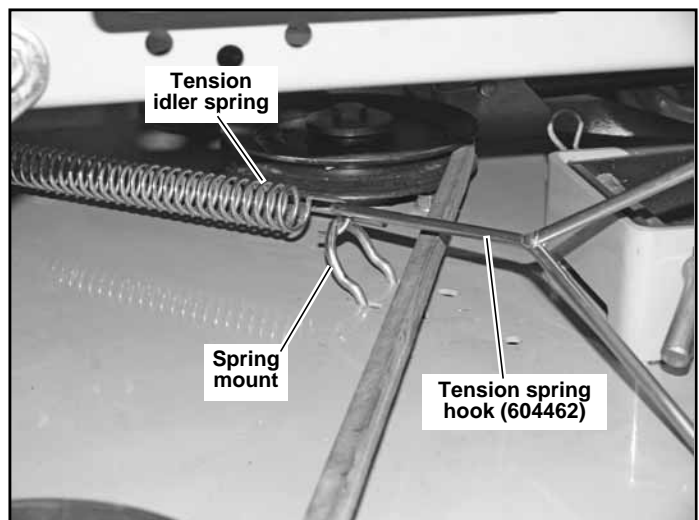
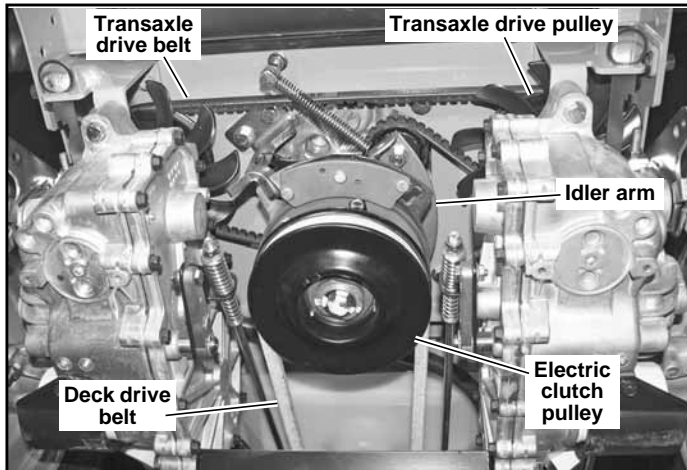
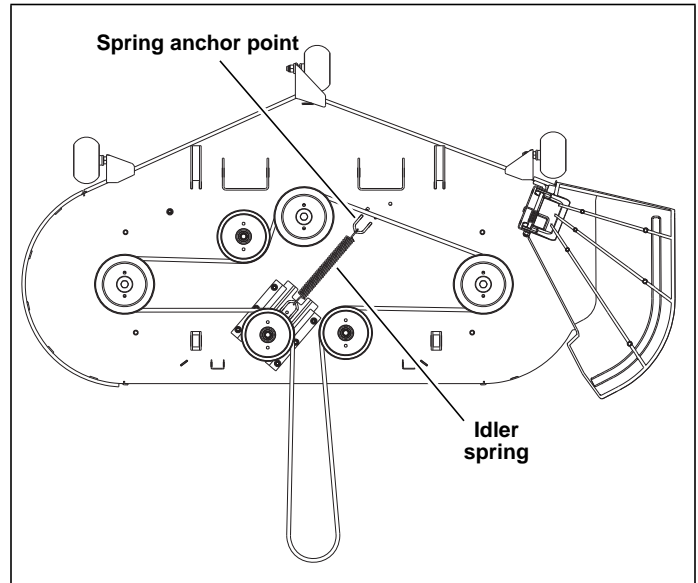

Figure 4-12
Figure 4-13
Figure 4-15
spring mount to release tension from the deck drive belt. Figure 4-12
6. Remove the deck drive belt from the electric clutch pulley located on the engine shaft. Figure 4-13
8. Release the transaxle drive belt tension, using the locking pliers, to remove the tension spring from the idler arm. Swing the idler arm out of the way. Figure 4-13
9. Remove the transaxle drive belt from the transaxle drive pulleys and the engine pulley. Figure 4-13 & Figure 4-14
drive belt by pulling on the deck belt idler spring and hooking it in the spring mount on the deck. Figure 4-12, Figure 4-13, & Figure 4-15